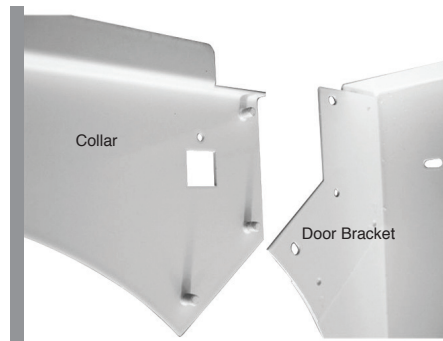

FIG 4 - Door Bracket and Collar Detached
Step 5 - Door bracket (fig 4, 5)
- **NOTE:** Lightly tighten nuts to allow fixing of door front. (Refer fig 4 & 5)